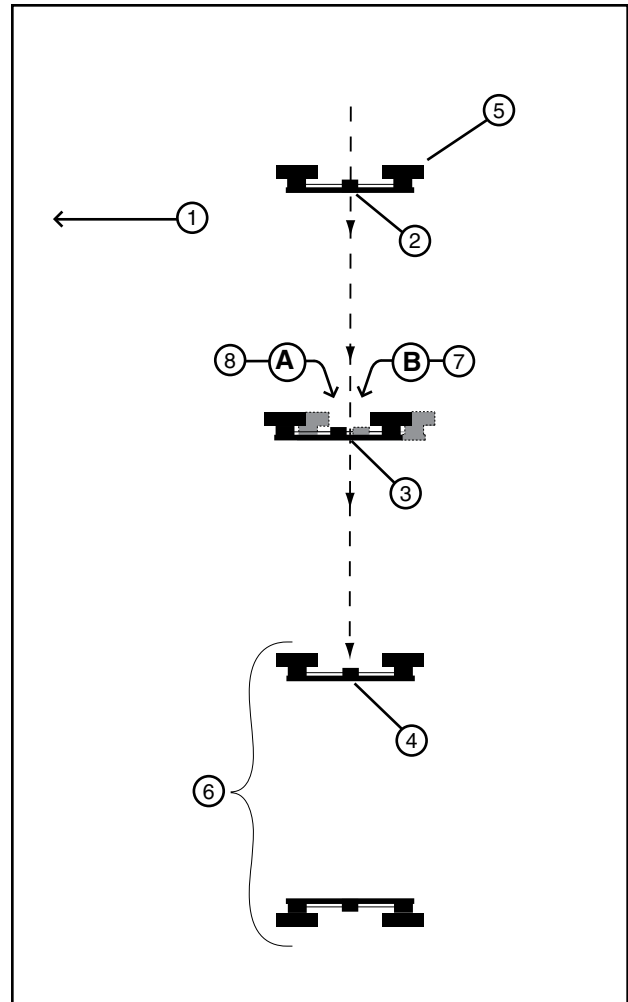

Figure 103-1 1. Direction of Travel 5. End Tower
2. Begin the alignment procedure from an end tower. Identify the first three towers as 1, 2, and 3. Use towers 1 and 3 to align tower 2. See Figure 103-1.
3. Sight an imaginary center line between the center of the tower drive motor 1 to the center of the tower drive motor 3. See Figure 103-1.
4. Observe the movement of the tower drive motor 2. It should start and stop equal distances from the imaginary center line. See Figure 103-1.